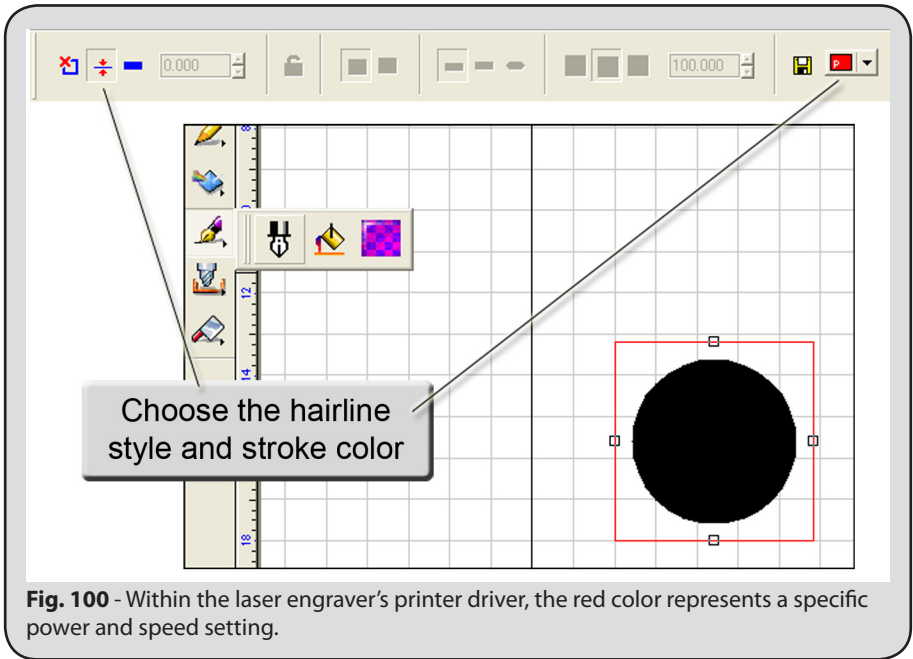

Fig. 100 - Within the laser engraver's printer driver, the red color represents a specific power and speed setting.
7. In the SmartBar, choose a **Hairline** style, and set a red stroke color (Fig. 100).